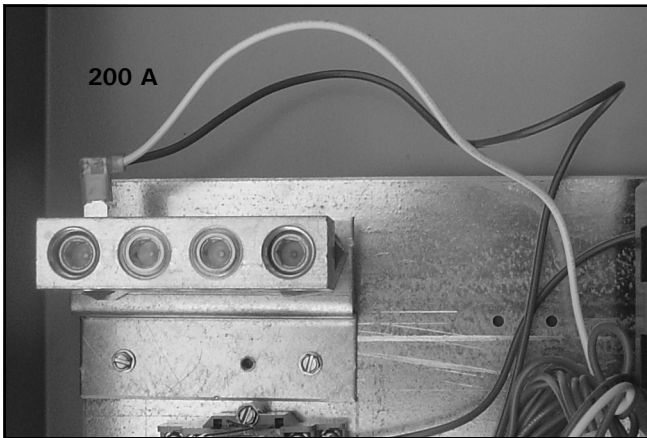

Figure 48. White Wiring Harness, Red Load Shed, and White TVSS Wires Connected to a 100 A and 200 A Neutral Bars.
- Step 7:** Disconnect the white wire connected to the neutral bar. On 100 A ATS, use a blade screwdriver to remove the screw securing the white wire's ring terminal to the neutral bar (see Figure 48).
On 200 A standard and SE ATSs, remove the white wire from the flag connector on the neutral bar (see Figure 48).